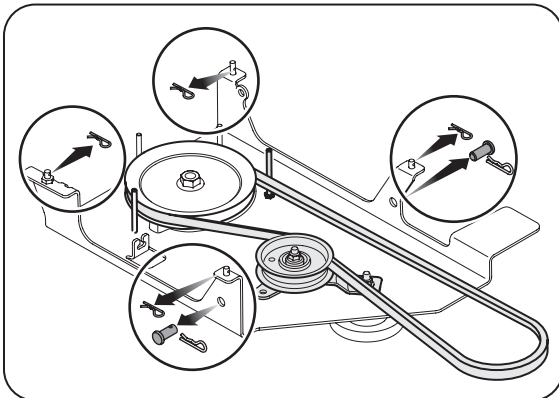

Figure 4-5
1. Remove and retain the four hairpin clips from the weld pins found on the top side of the undercarriage assembly. Remove and retain the two clevis pins with hairpin clips. This hardware is for later installation. See Figure 4-5.